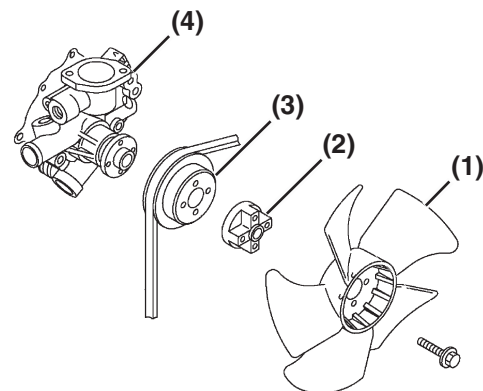

Figure 8-4
4. Remove the engine coolant fan guard (if equipped), engine coolant fan (Figure 8-4, (1)), spacer (Figure 8-4, (2)) and engine coolant pump V-pulley (Figure 8-4, (3)).
6. Remove the engine coolant pump (Figure 8-4, (4)). Discard the gasket.